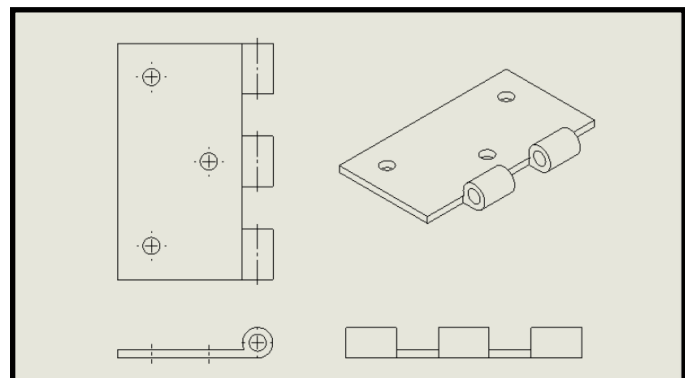

Figure 3.20 - Quiz - Object Three
3. Does the drawing in figure 3.20 have the correct marking and lines? Hint: First check visible line, then hidden lines, and then centerline or marks or for each view..